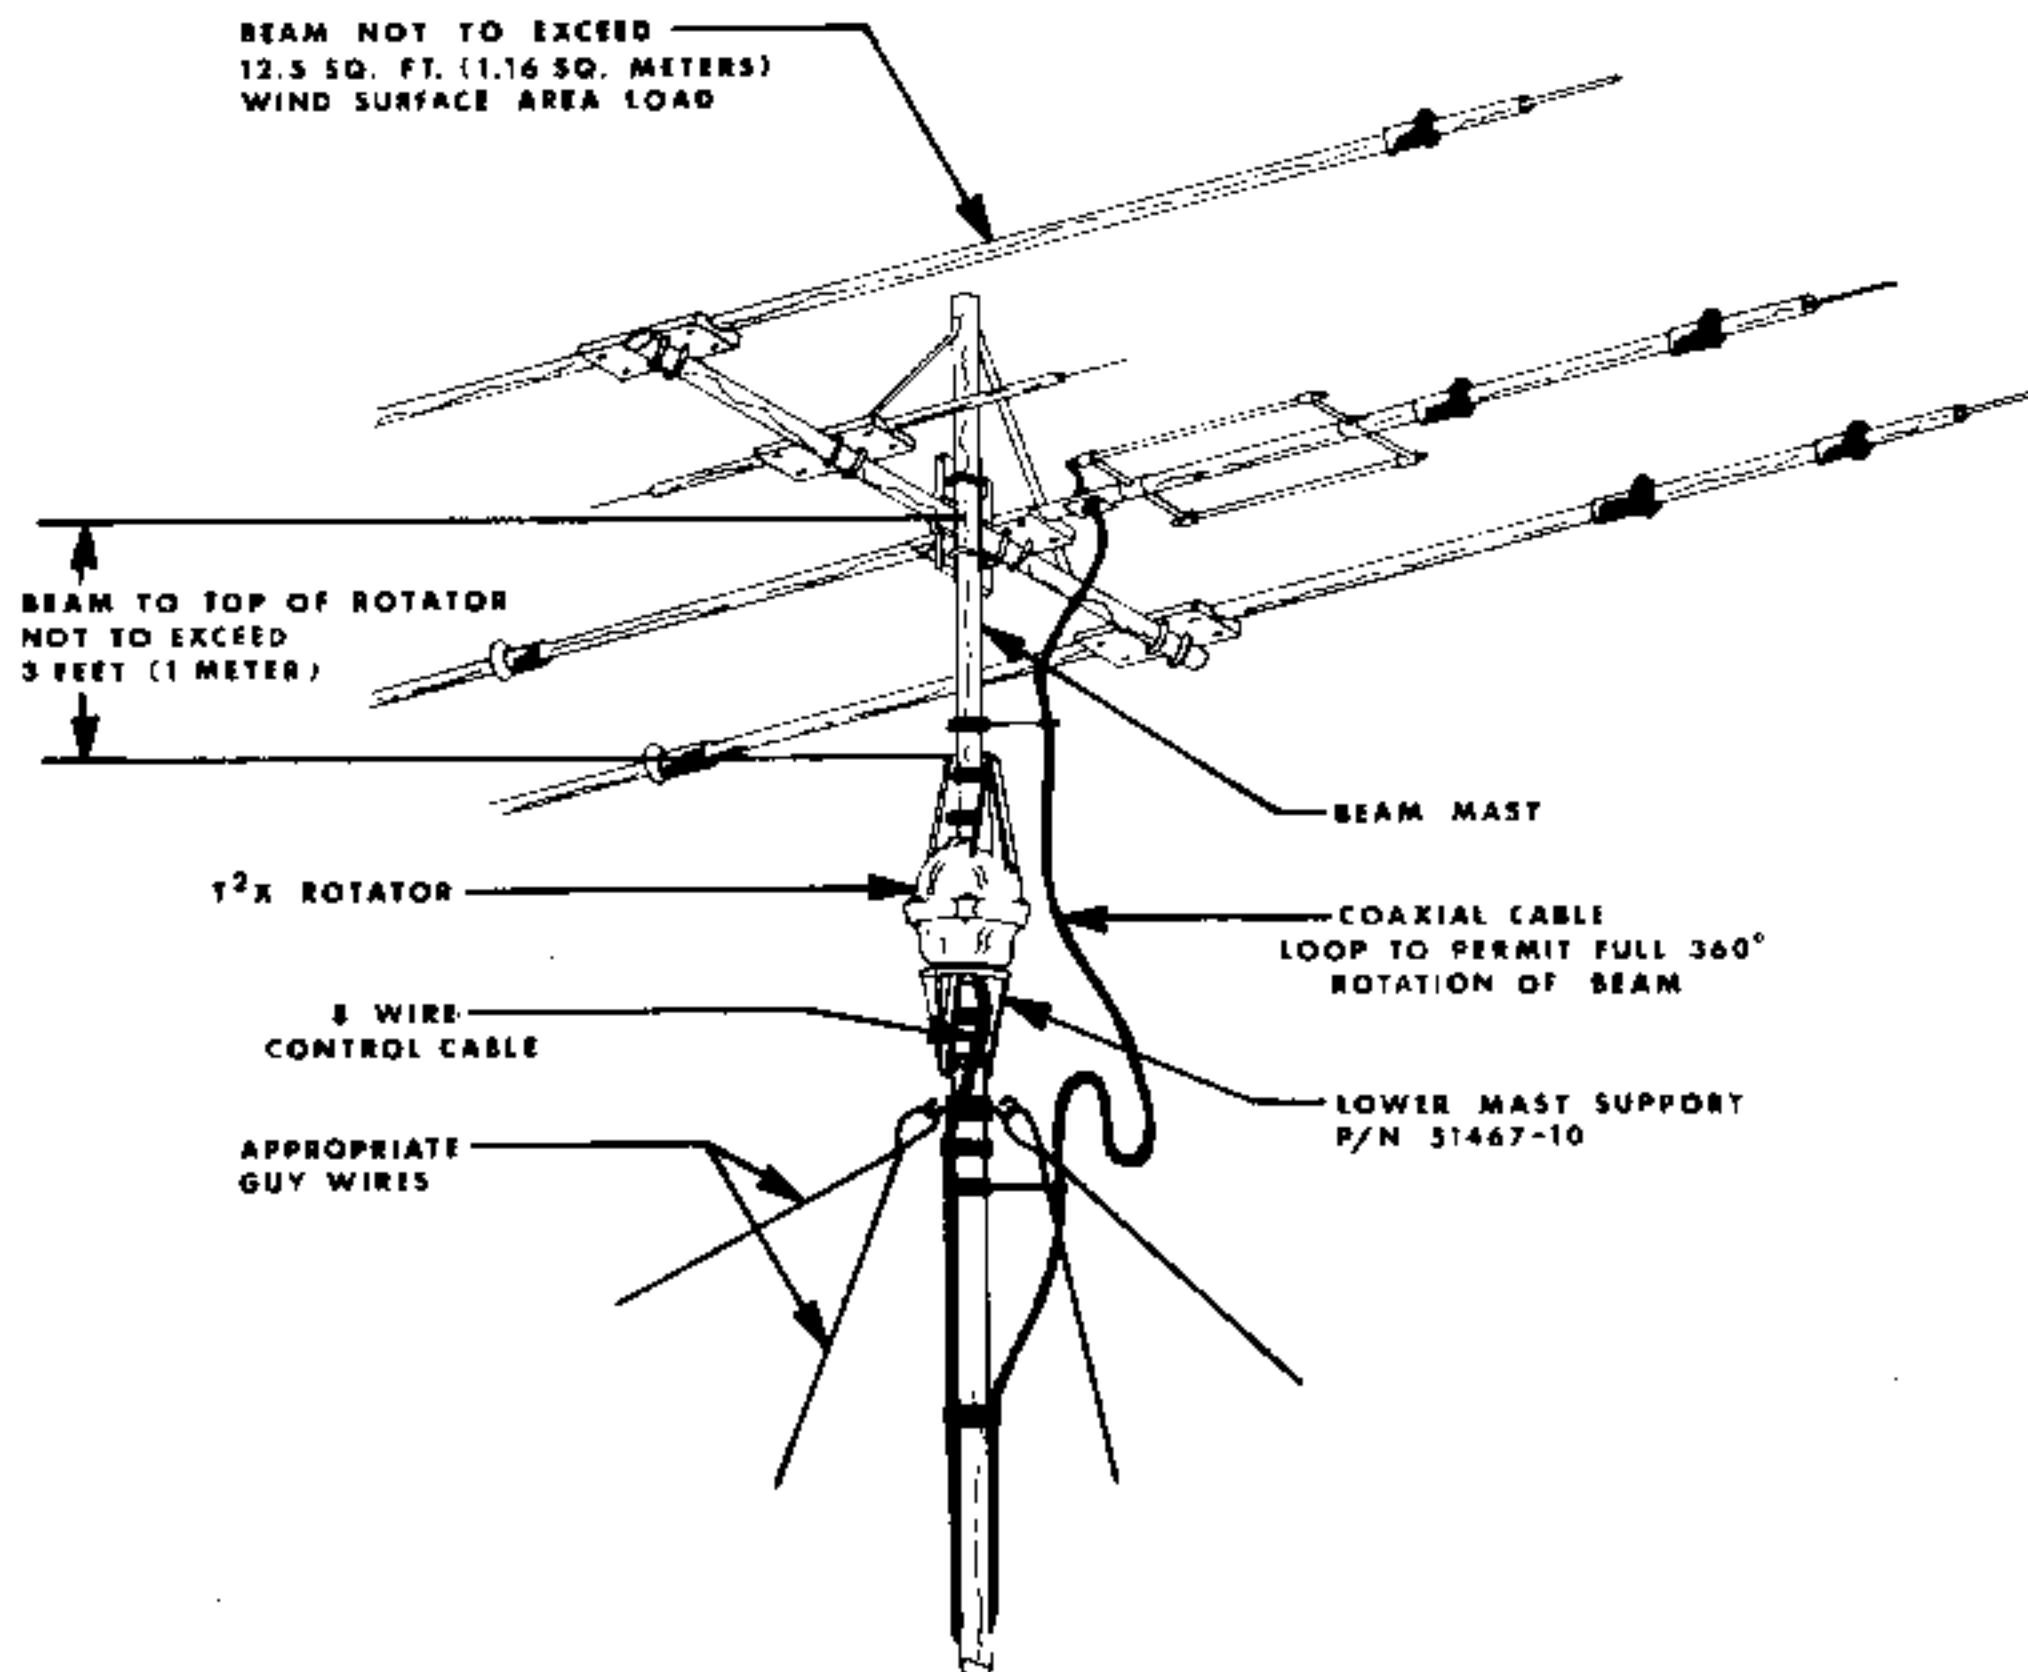

FIG. 3 - POLE MOUNTING
3. A telescoping or other type as shown, see figure 3, can also be used. This installation is similar to #2 above and requires the optional Heavy Duty Lower Mast Support Kit and must be derated to 12.5 square feet (1.16M²)